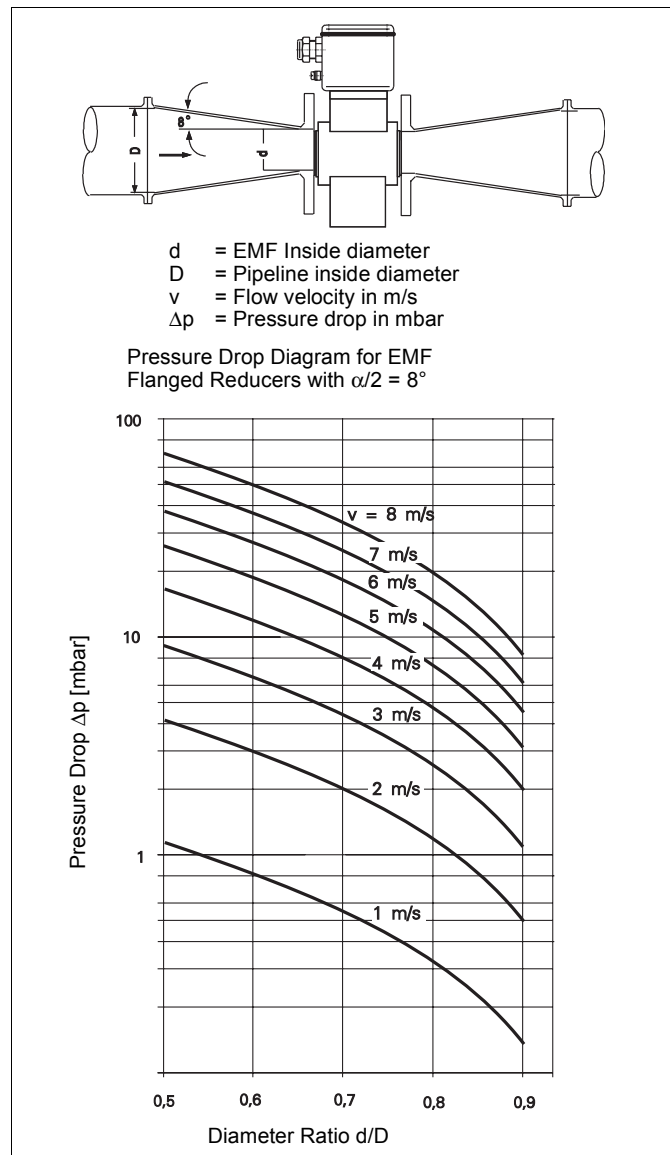

Fig. 14 Pressure Drop Nomograph
The flowmeter can readily be installed in larger size pipelines through utilization of flanged transition sections (e.g. Flanged Reducers per DIN 28545). The pressure drop resulting from the reduction can be determined from Diagram Fig. 14 using the following procedure:
3. The pressure drop can be read on the -Y- axis at the intersection of the flow velocity value and the "Diameter Ratio d/D " value on -X- axis in Fig. 14